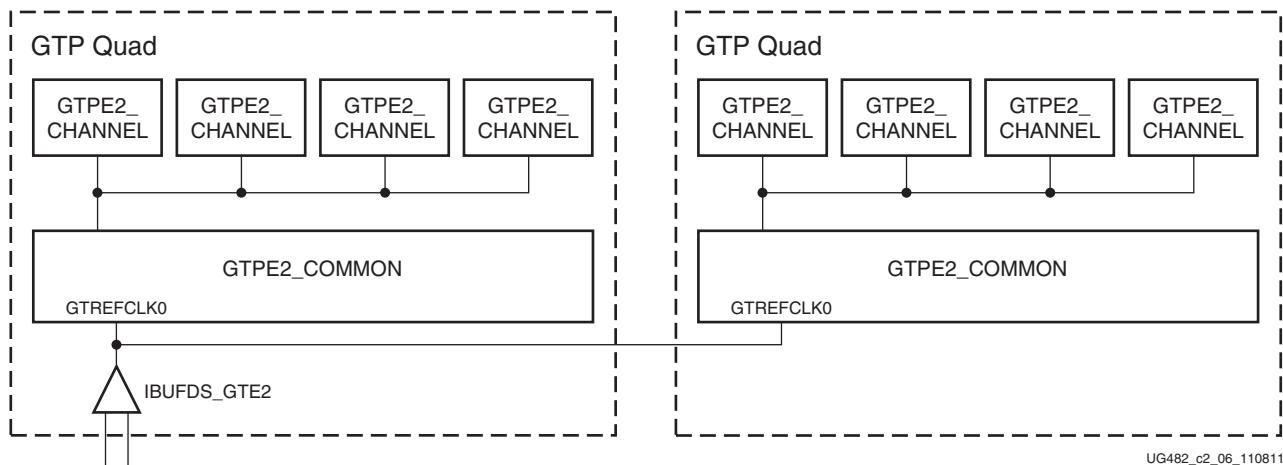

Figure 2-6: Two GTP Quads with a Single Shared Reference Clock
Figure 2-6 shows a single reference clock connected to two GTP Quads. The user connects the IBUFDS_GTE2 output (O) to the GTREFCLK0 input port of both GTPE2_COMMON primitive instances. Such a scenario is only possible in the largest Artix-7 device (XC7A200T-FFG1156) that contains east and west GTP Quads adjacent to each other.
When required, as is the case for the design in Figure 2-6, the Xilinx implementation tools make the necessary adjustments to the east/west routing shown in Figure 2-2, page 28, as well as any necessary pin swapping to the GTPE2_COMMON clock inputs to route the reference clocks between two Quads.